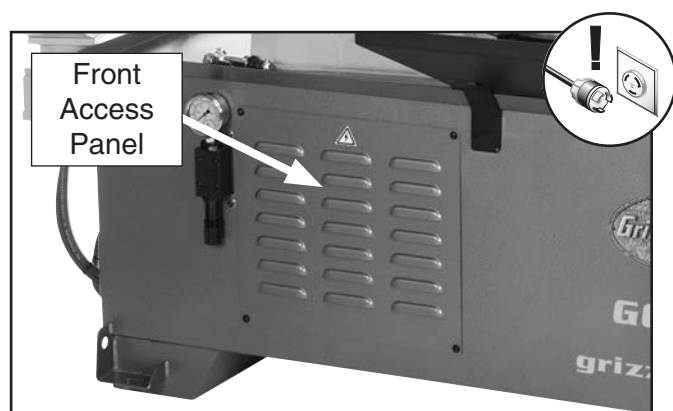

Figure 70. Front access panel location.
2. Remove front access panel (see **Figure 70**).
3. Remove front access panel (see **Figure 70**).